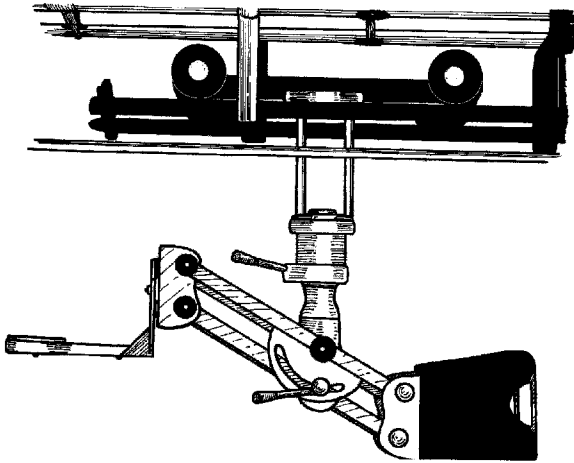

Figure 10.1 Seno's Over/Under Jib Arm (Modern Equipment Company).
- **Seno's Over/Under Jib Arm** (Figure 10.1)